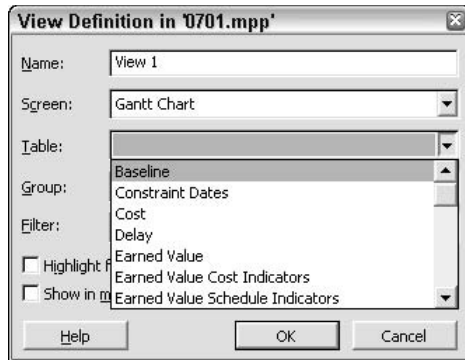

Figure 7-11: All the built-in tables and new tables that you have created appear on this list.
- If the screen that you chose in Step 5 gives you the option of selecting a table to include with it, select that table from the Table drop-down list shown in Figure 7-11.